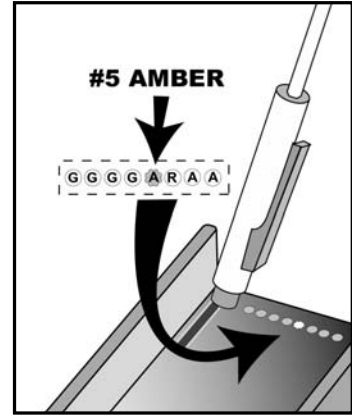
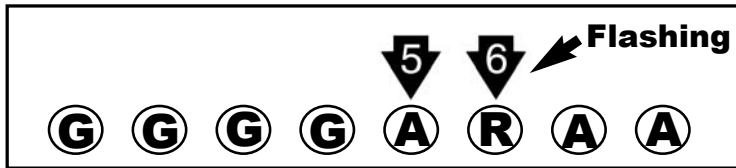

Figure 11 - Magnetic reed switch / LED location.
Figure 12 - Indicates magnetic switch is activated.
2. Using the supplied magnetic screwdriver (as shown in Figure 11), Activate-Hold as discussed in the shaded box below. The #5 amber light and #6 flashing red light will illuminate to indicate switch activation (Figure 12).
5. When the desired preset program is indicated, release the reed switch by removing your magnetic tool from the switch. Once a preset has been selected and the switch has been deactivated, the #5 amber light will go out, indicating that the switch has been deactivated. The green LED lights will remain for several second before going out (Figure 12).